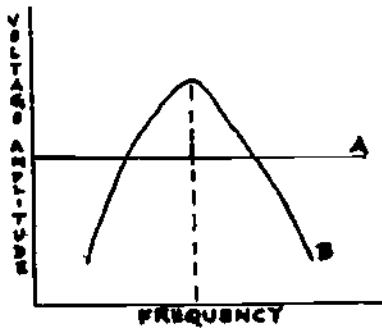

Figure 5
6. Given the diagram in Figure 5, line "A" represents (regenerative) (degenerative) feedback and curve "B" represents (regenerative) (degenerative) feedback.